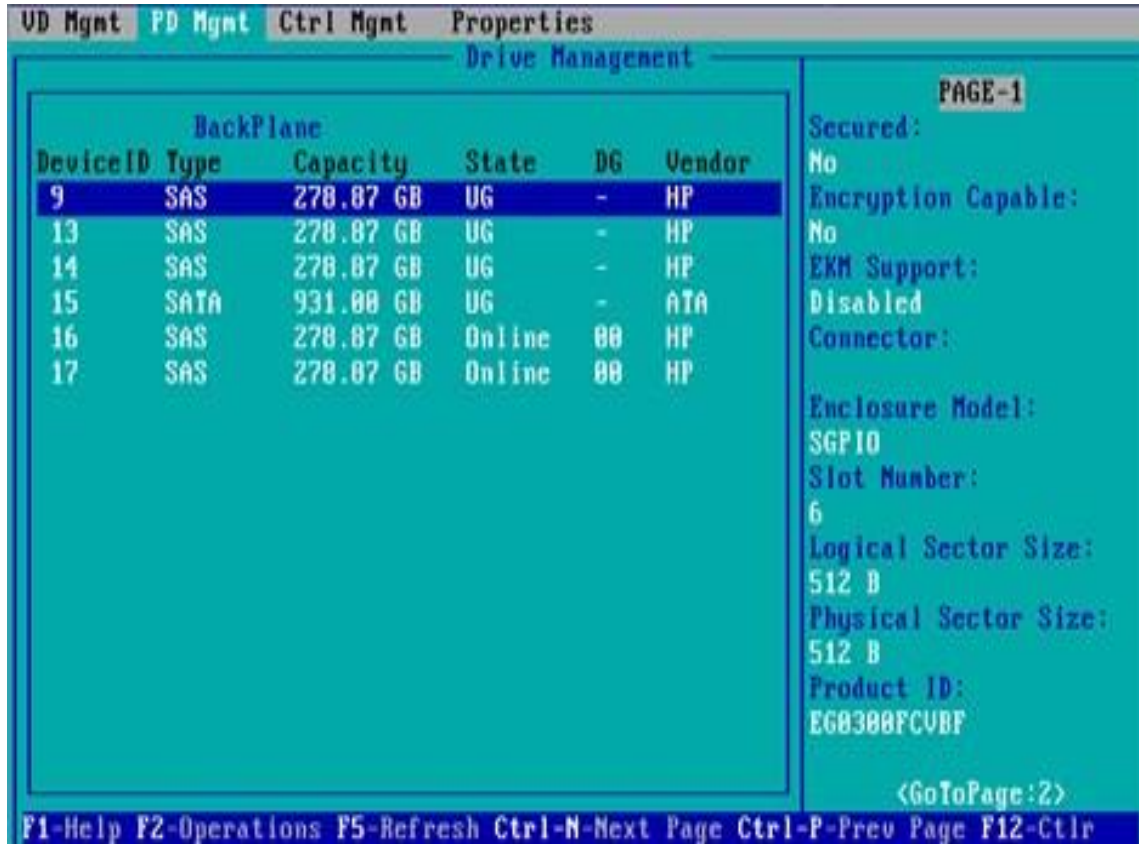

Figure 6-98
- a) As shown in figure 6-98, select the disk to be located in the PD MGMT interface and press F2.